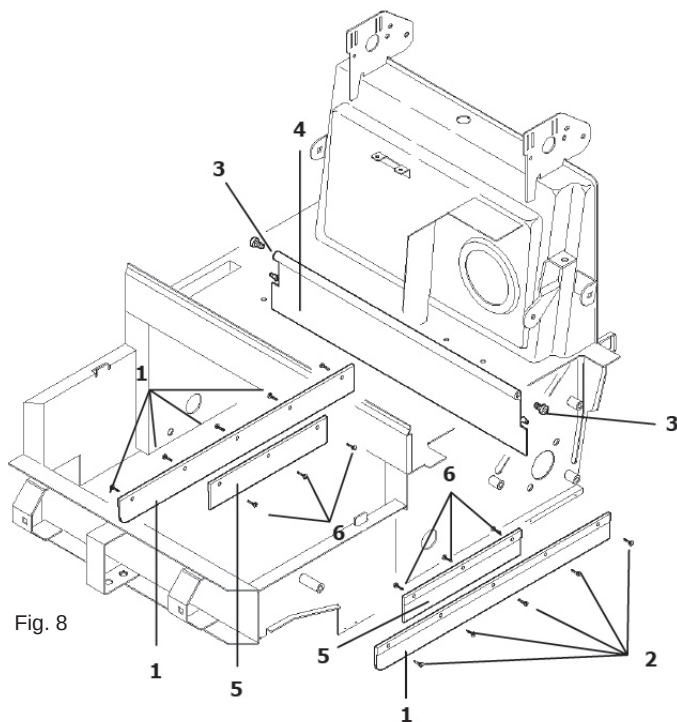

Fig. 8
To replace the side flaps (pos. 1 Fig. 8), take off the back wheels. Unscrew the screws fixing the flaps to the chassis (pos. 2 Fig. 8) and replace with new flaps.
To replace the inner side flaps (pos. 5 Fig. 8) lift the front of the machine and unscrew the screws (pos. 6 Fig. 8) that fix the flaps to the chassis. Replace with new flaps.
- Unscrew the two flap fixing pins (pos. 3 Fig. 8) on the sides of the chassis.
- Hold the flap (pos. 4 Fig. 8) and pull it towards the outside of the machine.